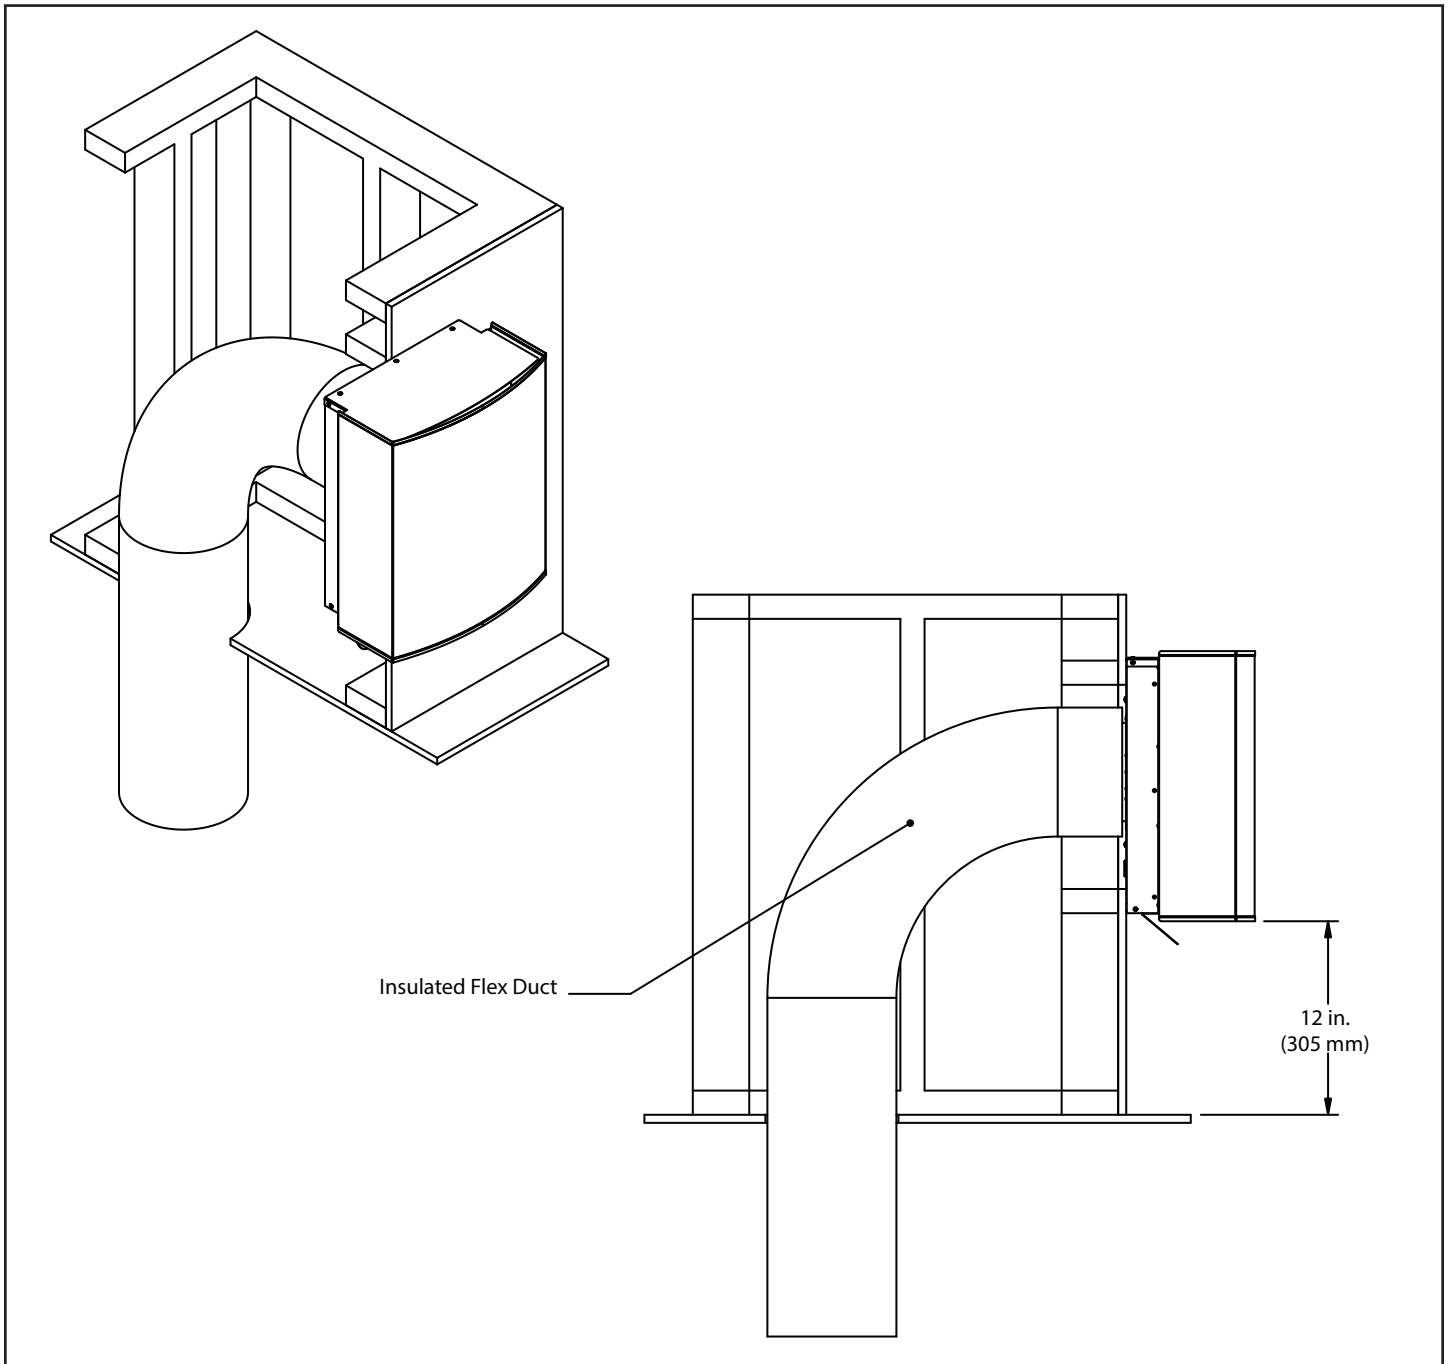

Figure 2.3 Flat Roof Enclosure
1. If the HEAT-OUT-GAS is going to terminate on a flat roof, an enclosure similar to the one shown in Figure 2.3 will need to be constructed.
4. Cut a 7" diameter hole in the outside of building where the duct for the HEAT-OUT-GAS is to be located. Refer to Figure 2.1 and Figure 2.3 for duct location on HEAT-OUT-GAS.